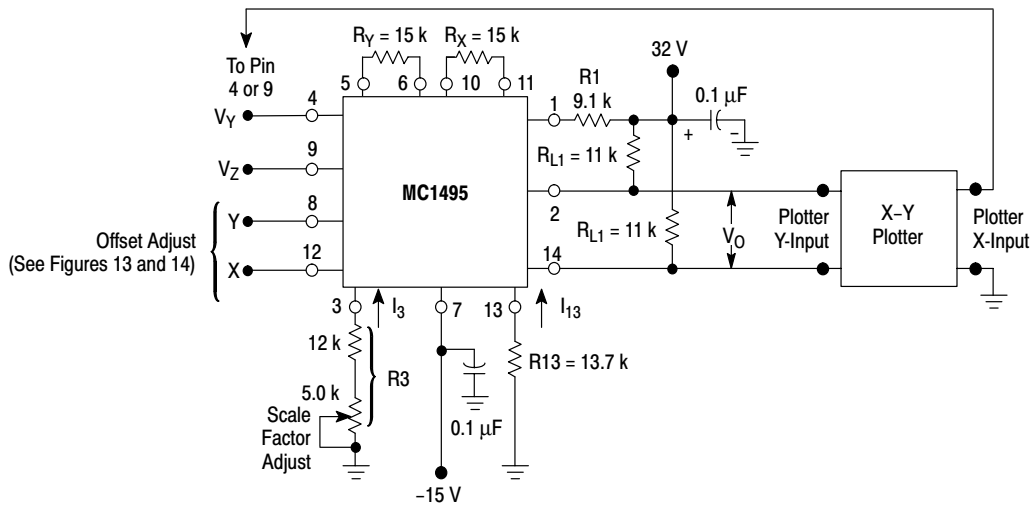

Figure 5. Linearity (Using X-Y Plotter Technique)
1. Using an X-Y plotter with the circuit shown in Figure 5, obtain plots for X and Y similar to the one shown above.